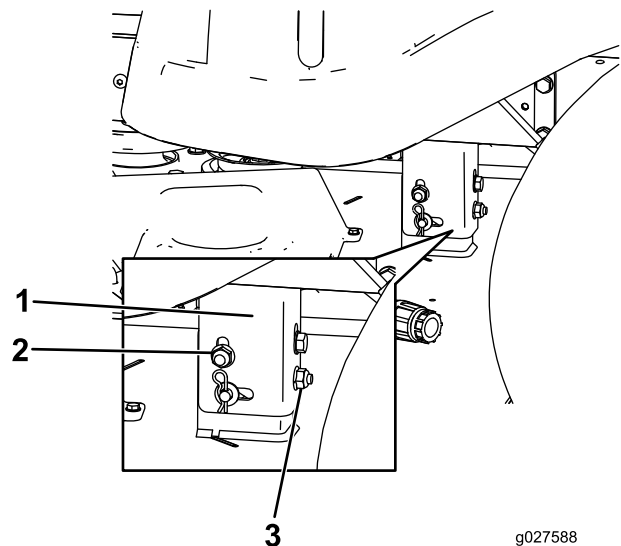

Figure 56
8. Raise or lower the left side of the mower deck by rotating the rear locking nut. (Figure 56).